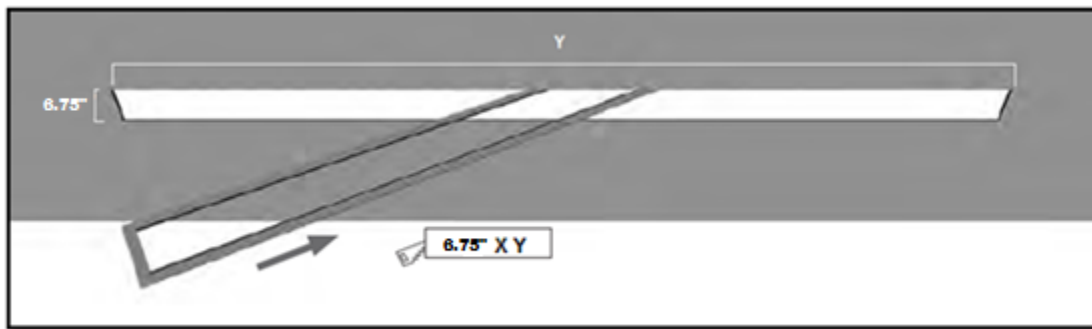

Figure 1.
- a) Cut out width 6.75". Cut out length "Y" is the length of the channels plus 3/16" Figure 1.
- c) Install the frame, secure support wires to brackets as shown in Figure 1 & 2.